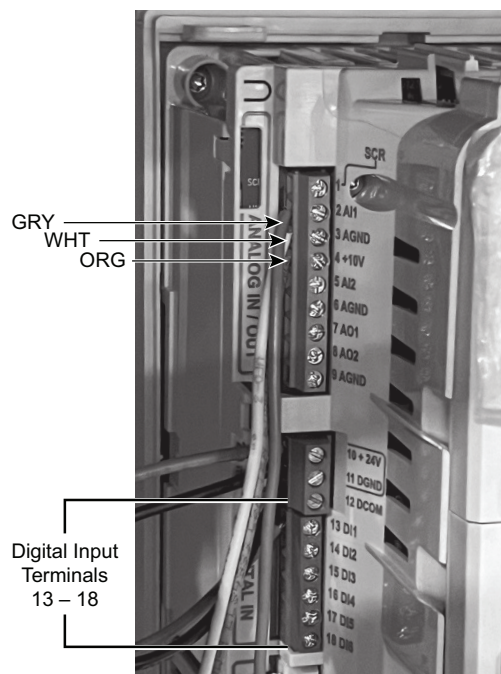

Fig. 45 — Digital Input Terminal Block Location on ACH580 VFD
3. Disconnect the DI1 input at Terminal 13 (see Fig. 45 for location of DI1).